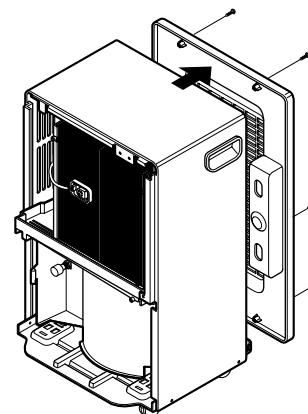

Figure 6
4. Remove the rear grille. (See Figure 6)